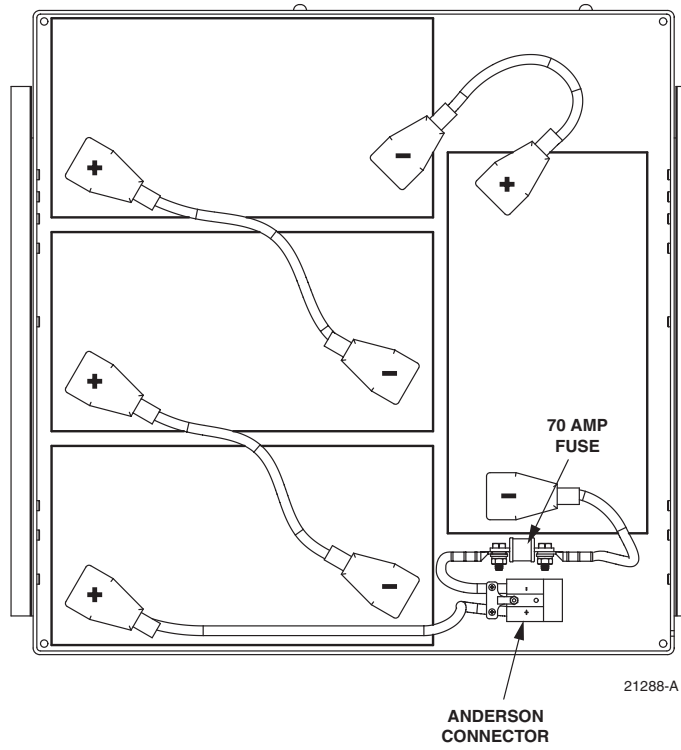
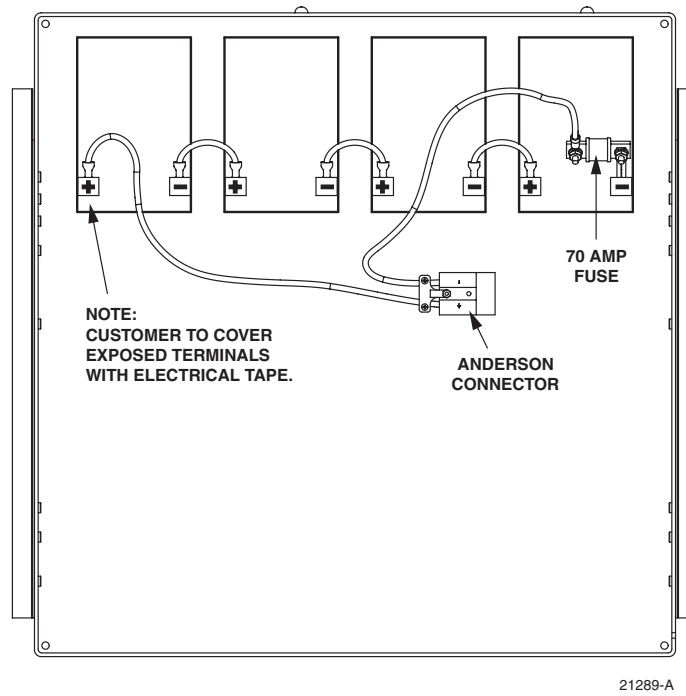

Figure 35. Extended Batteries in Drawer
Figure 36. Glitch Batteries in Drawer
6. Install the batteries in the drawer as follows, referring to Figure 35 for extended batteries and Figure 36 for extended batteries: